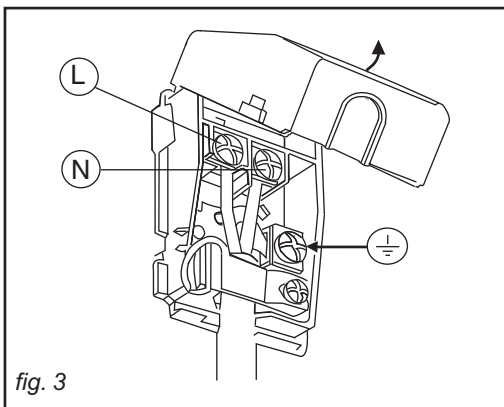

fig. 3
- Connect the supply cable to the terminal strip of the oven (fig. 3), keeping the earth wire 3 cm. longer than the active conductors (live/neutral) .